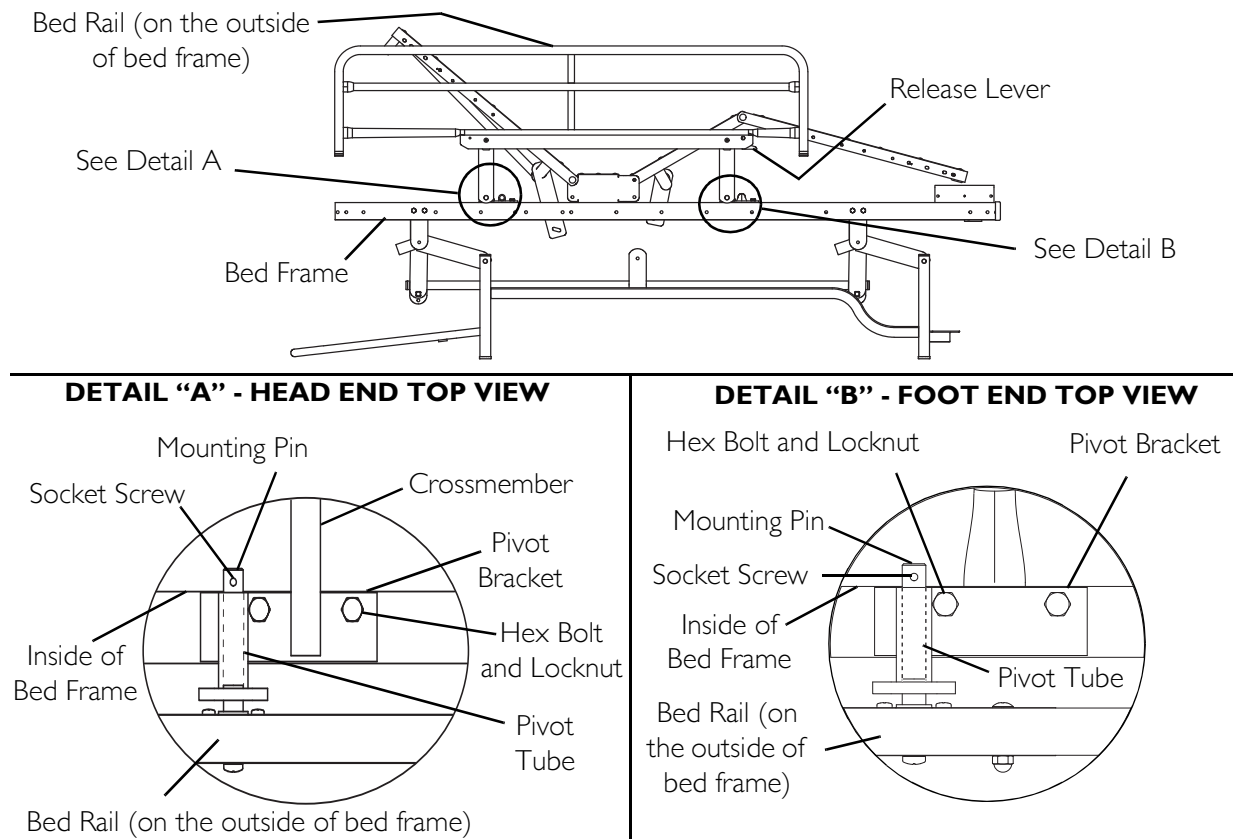

FIGURE 1 Installing 6801A and 6808A Bed Rails
NOTE: For this procedure, refer to FIGURE 1.
1. Position the pivot brackets on the bed frame as shown in Details "A" and "B" of FIGURE 1.